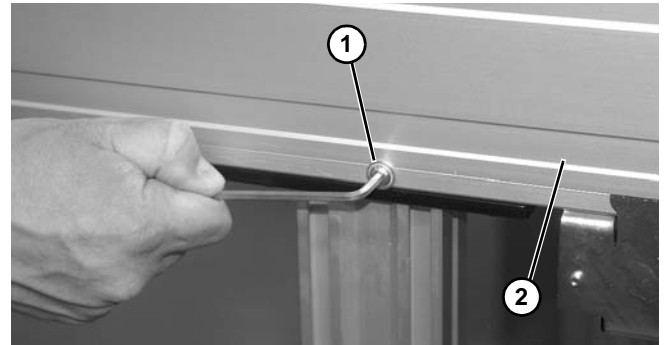

Figure 114
1. Remove screws (Figure 114, item 1) holding side cover (Figure 114, item 2) onto conveyor frame.